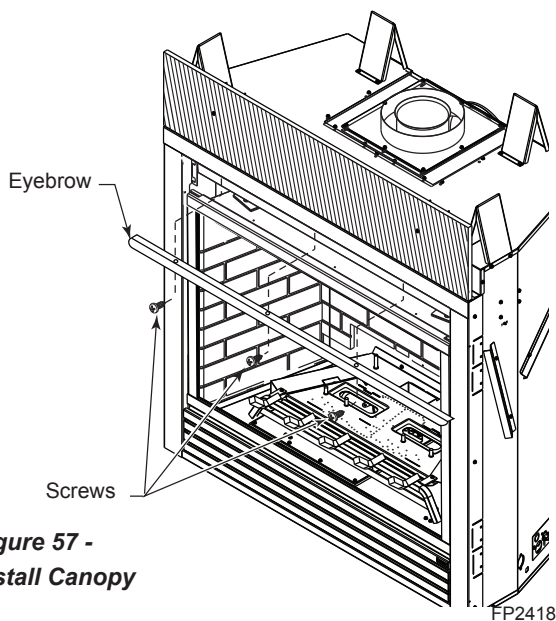

Figure 57 -
1. The RF receiver button located on the Control Board must be in the on position before the learn function can begin. Use paper clip to depress button. One beep for RF receiver ON or two beeps for RF receiver OFF will be given as confirmation. Refer to Figure 57 for location.
2. Attach canopy to underside of top outer shell with three (3) screws provided. *Figure 57*